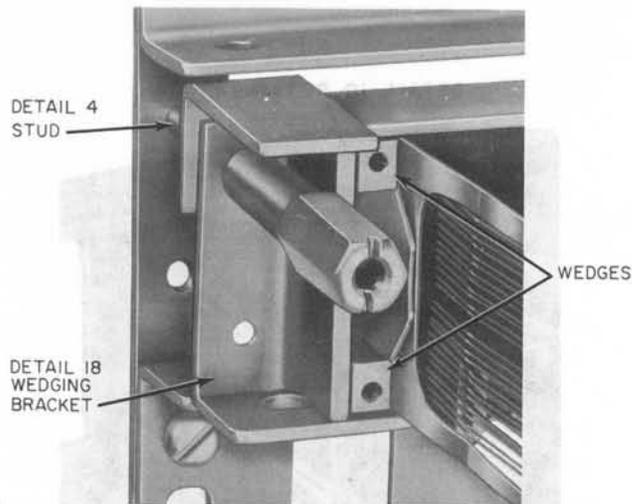

Fig. 19—Detail 18 Wedging Support on Detail 4 Stud
- (a) Place Detail 18 wedging bracket on Detail 4 stud and then fasten Detail 2 spacer nut as shown in Fig. 19.
- (b) Use the Detail 5 wedge inserter to force Details 20 to 33 wedges of sufficient thickness to compress the relay clamping spring between the spring and the Detail 18 wedging bracket on the top and bottom. See Fig. 19.